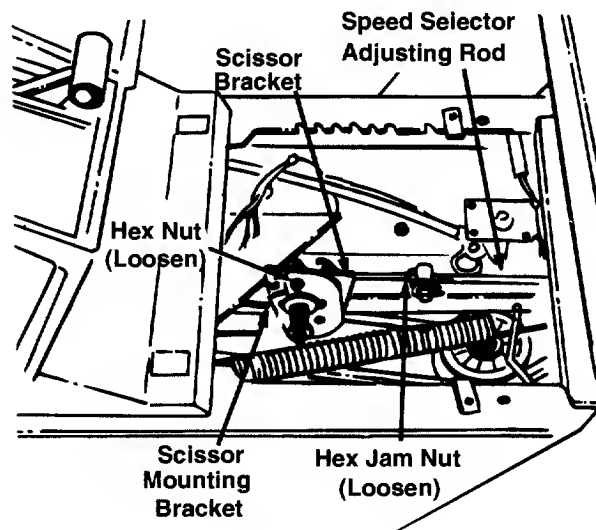

Figure 17
3. Loosen the hex jam nut on the speed selector adjusting rod. See Figure 17.
4. Loosen the hex nut on the scissor mounting bracket. See Figure 17.